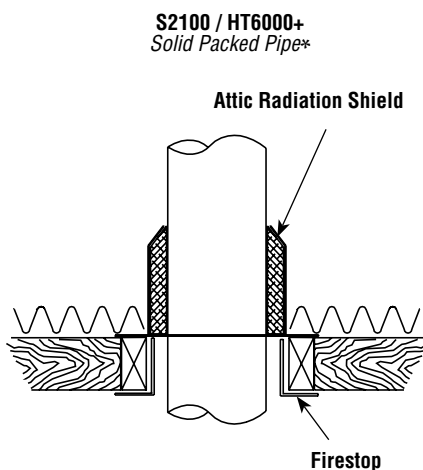

Figure 28a
2. From below, install a firestop in each ceiling/floor separation through which the chimney will pass. At the attic level, install an attic radiation shield from above (**Figure 28a and 28b**).
3. Use another elbow to turn the chimney vertically. Secure the elbow, using three (3) 1/2" (12 mm) screws (provided with the elbow).
5. From below, install a firestop (See **Figure 28a**).